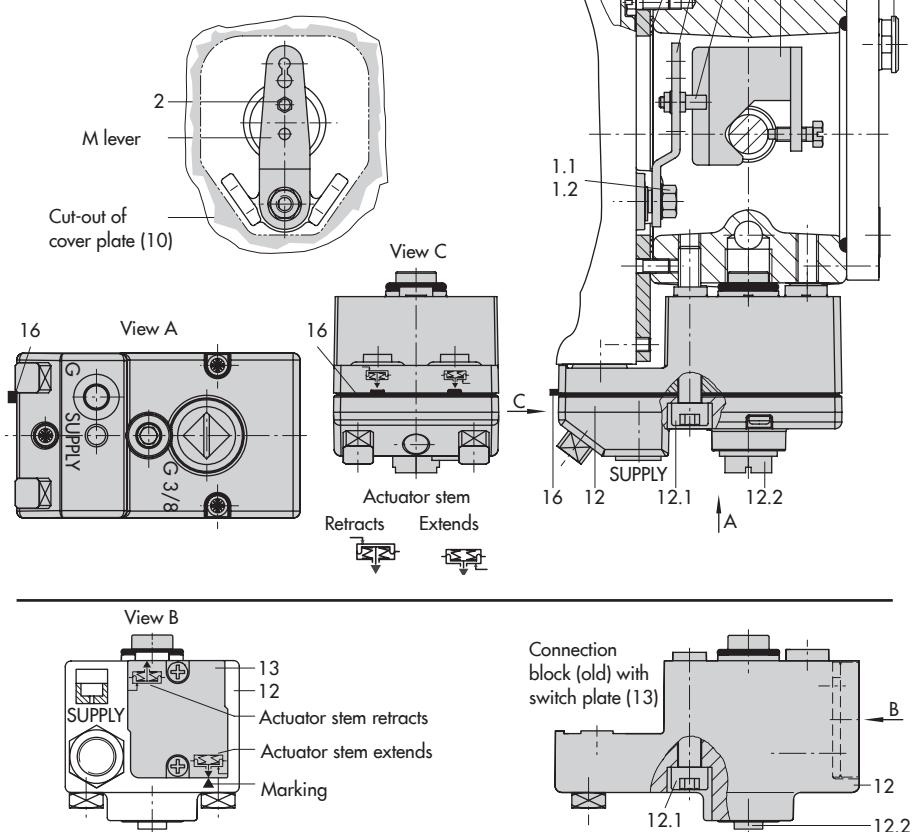

Fig. 4: Direct attachment – Signal pressure connection for Type 3277 Actuator with 175 to 750 cm²
Actuators with 175 to 750 cm² effective areas (see Fig. 4)
1. Place follower clamp (3) on the actuator stem, align it and screw tight so that the mounting screw is located in the groove of the actuator stem.
2. Mount cover plate (10) with narrow side of the cut-out (Fig. 4, on the left) pointing towards the signal pressure connection. Make sure that the gasket (14) points towards the actuator yoke.
3. For actuators with 355, 700 or 750 cm², remove the follower pin (2) on the M lever (1) on the back of the positioner from pin position **35**, reposition it in the hole for pin position **50** and screw tight. For actuators 175, 240 and 350 cm² with 15 mm travel, keep the follower pin (2) in pin position **35**.
4. Insert formed seal (15) into the groove of the positioner housing.
5. Place positioner on the cover plate in such a manner that the follower pin (2) rests on the top of the follower clamp (3).
6. Make sure that the tip of the gasket (16) projecting from the side of the connection block is positioned to match the actuator symbol for the actuator's fail-safe action "actuator stem extends" or "actuator stem retracts". If this is not the case, unscrew the three fastening screws and lift off the cover. Turn the gasket (16) by 180° and re-insert it.
The old connection block version (Fig. 4, bottom) requires the switch plate (13) to be turned to align the actuator symbol with the arrow marking.
7. Place the connection block (12) with the associated seals against the positioner and the actuator yoke and fasten using the screw (12.1). For actuators with fail-safe action "actuator stem retracts", additionally remove the stopper (12.2) and mount the external signal pressure pipe.
8. Mount cover (11) on the other side. Make sure that the vent plug is located at the bottom when the control valve is installed to allow any condensed water that collects to drain off.